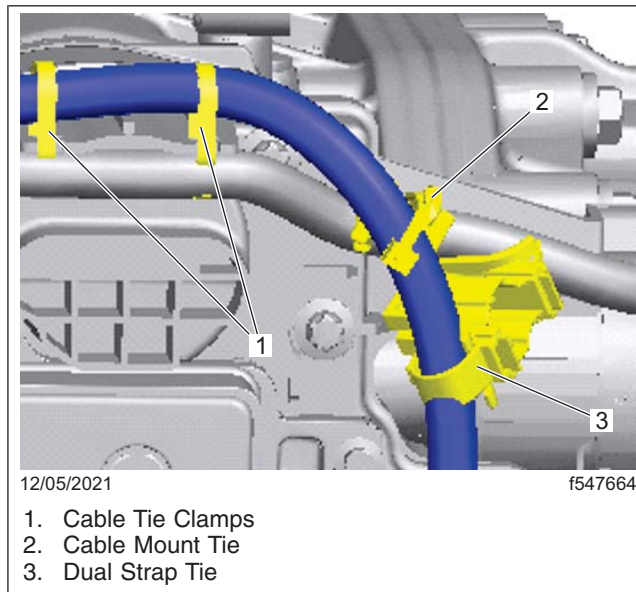

Fig. 7, Installing Cable
- 5.5 Install all the ties at the top of the shift controller, as shown in Fig. 7.